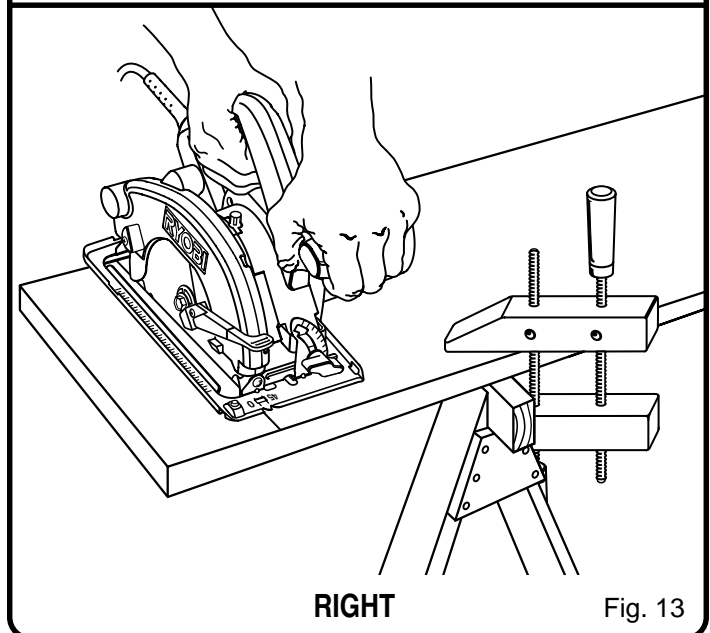

Fig. 13
**Hold your saw firmly with both hands.** See Figure 13.